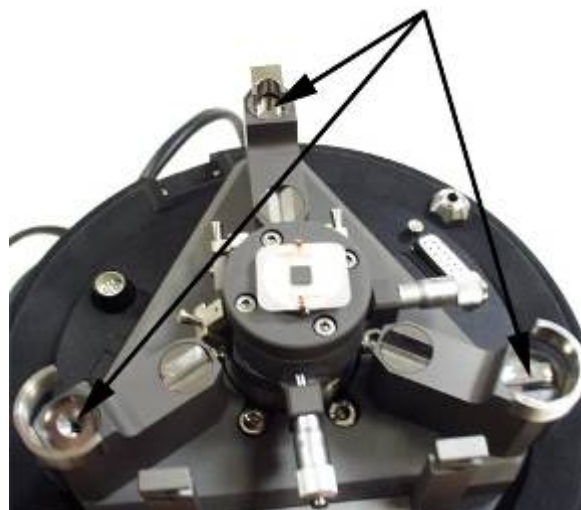

Fig. 2-110
- The measuring head is installed with inserting the screw supports into the fitting socket (Fig. 2-110) in such way that the front supports of the measuring head, fixed with contra-nuts, fit into the sockets with a hollow and a groove.